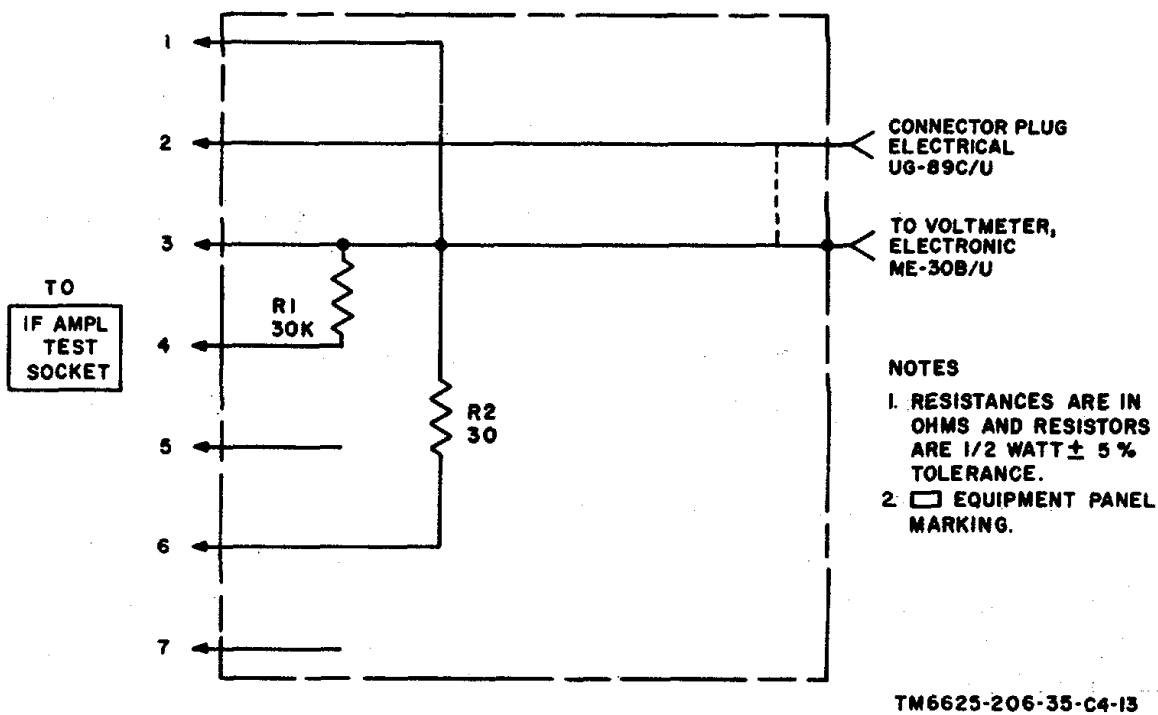
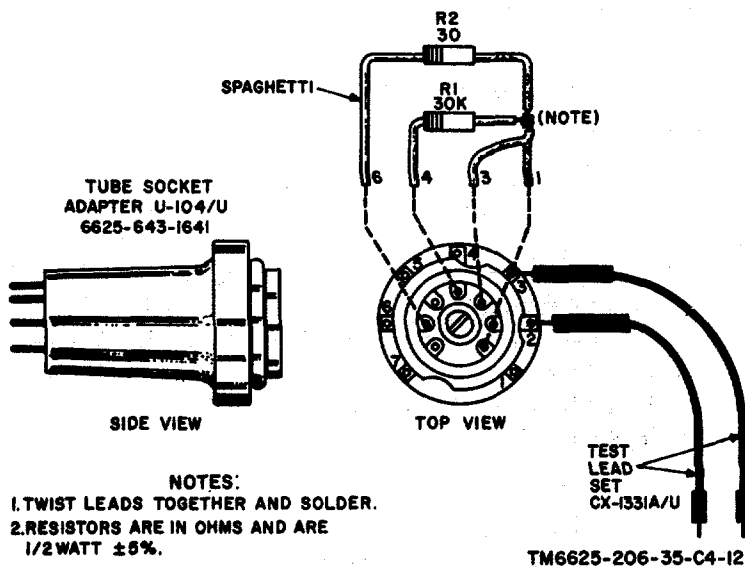

Figure 22.2. Special test plug (AN/URM-113A).
Figure 22.3. Fabricated test plug for TEST SOCKETS.
Page 23, figure 22.2 (page 20 of C 3).
Delete figure 22.2 and substitute the new figure 22.2.
Add figure 22.3 after figure 22.2.
Plug, test (connects Connector Plugs, Electrical UG-88C/U and UG-89C/U, fig. 22.2).	Special test plug
When Test Lead Set CX-1331A/U is used, fabricate test plug as shown on figure 22.3.
a. Insert a special test plug (fig. 22.3) into the IF AMPL TEST SOCKET. Use the multimeter to check the dc voltage between pin 4 of the IF AMPL TEST SOCKET and chassis ground. Pin 4 is positive.